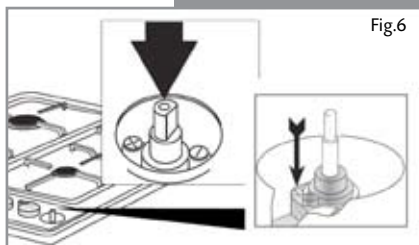

Fig.6
3. Insert a 2.5mm screwdriver into the hole at the top of the tap and turn the adjustment screw fully clockwise as shown in figure 6.
This appliance must be installed a minimum of 50mm from any back wall and a minimum of 185mm away from any adjacent vertical surfaces, e.g. a tall cupboard end panel. This may be reduced to 100mm if the adjacent surface is resistant to fire (tiles or steel, for example). These dimensions are shown in Fig.6.